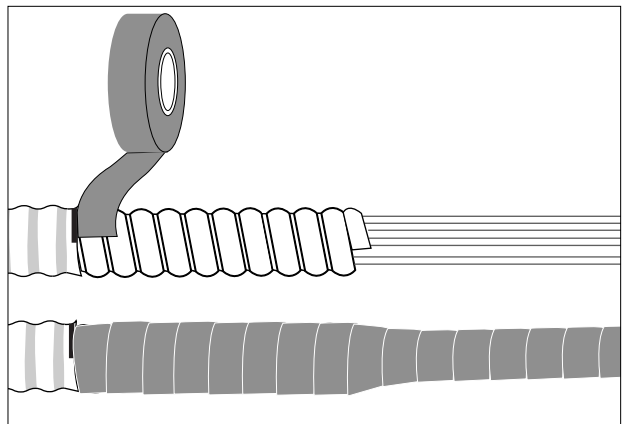

Figure 14 — Covering the cable core with Friction tape
Step 16: Place a wrap of friction tape over the exposed DX armor and over the entire length of the exposed cable core (Figure 14).